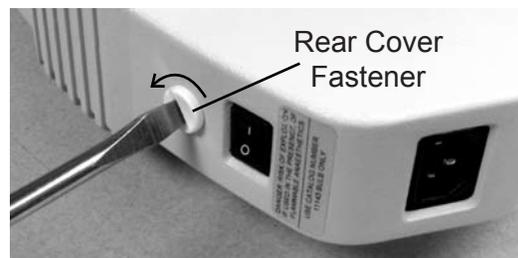

Figure MM-5 Rear Cover Fastener
2. Using a flat head screwdriver, turn the Rear Cover Fastener a quarter turn counter-clockwise. Refer to Figure MM-5.